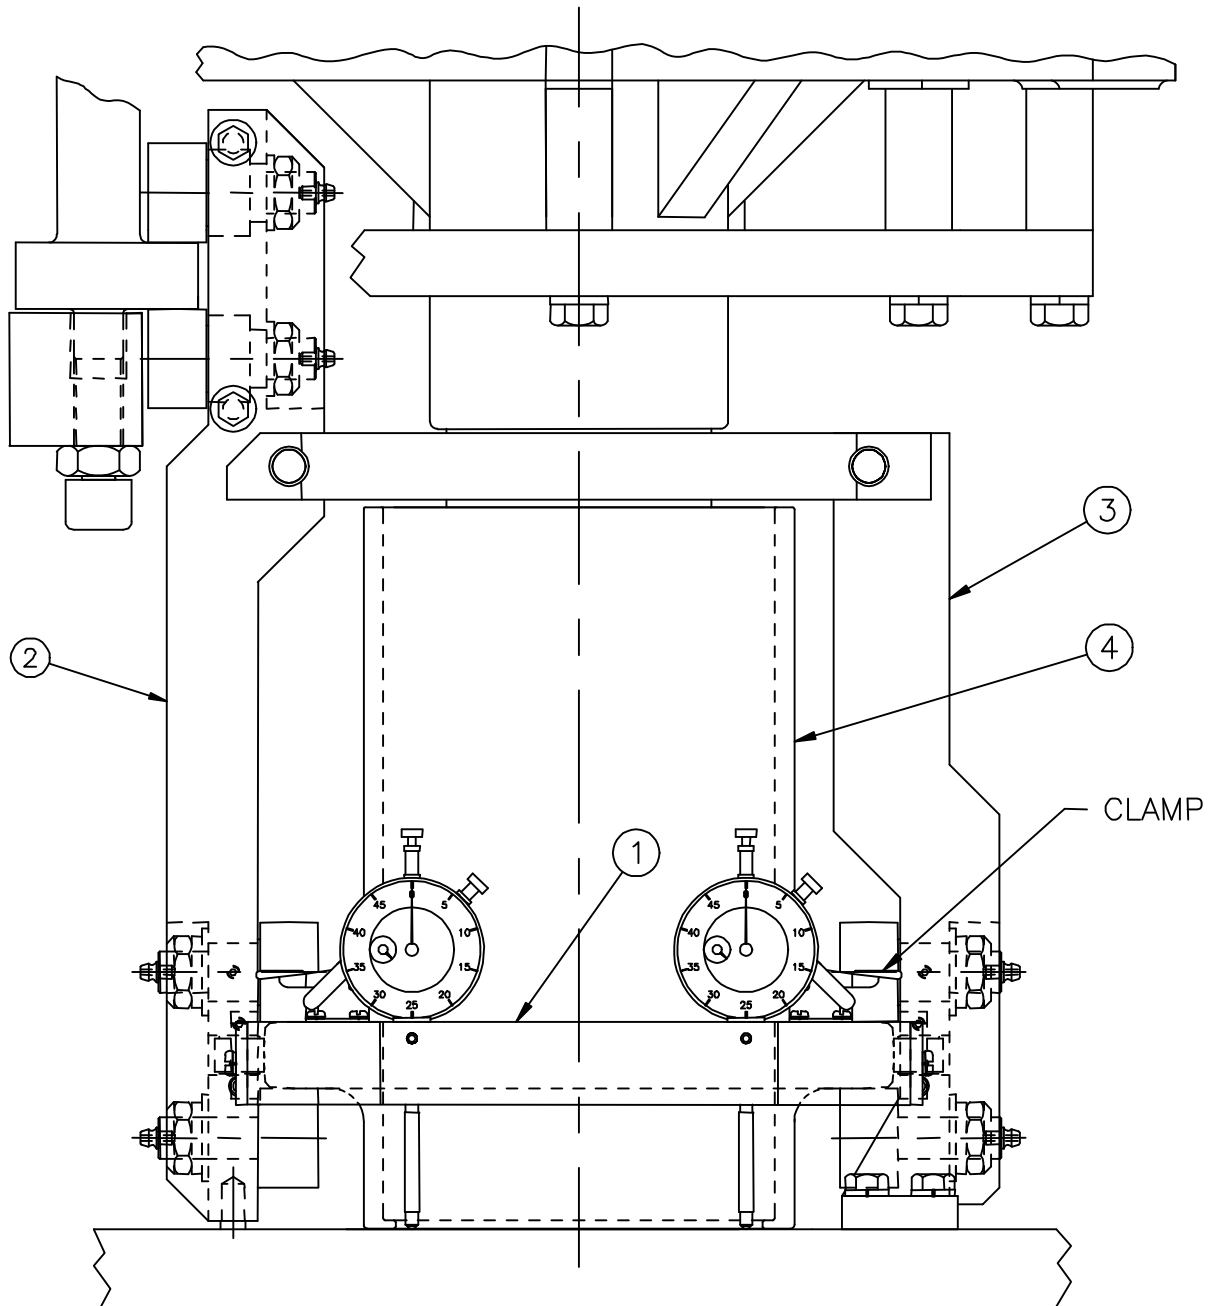

FIGURE 3.7: CUTAWAY VIEW OF ANGLE VERIFICATION JIG ATTACHED TO MOLD
The angle of gyration should be verified in a loaded condition to ensure all parameters are within specifications during compaction. This procedure is recommended for accurate machine calibration. The angle is verified using the angle verification jig which clamps onto the mold after the mold is inserted into the compactor (see Figure 3.7, Chapter III - page 22).
2. Prepare a HMA specimen and charge the mold. Place the mold into the compaction chamber. Be sure the mold is properly seated in the mold carriage and lubricated as normal. **Do not** lubricate the mold flange with the powder lubricant. Place the angle verification jig onto the mold flange and clamp it in position. The bar on the right side of the verification jig should be against the fixed link to center the jig between the carriage linkages. Rotate each dial indicator bezel to read .2500". Record the left indicator reading as VA_1 and the right as VB_1 . (see Figure 3.7, Chapter III - page 22).